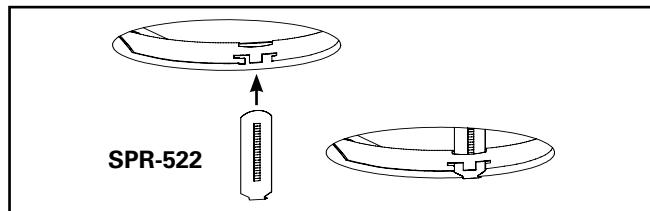

Figure 3.
- 4. Remove the Contractor's Third Hand and Remodeler unit from the ceiling. Remove Spring Adjustment Label and Spring from bottom of Plaster Frame. Remove Contractor's Third Hand from Plaster Frame and insert Plaster Frame into ceiling, transformer end first. Seat plaster frame lip on hole in ceiling. Install Plaster Frame Spring (Figure 3.).